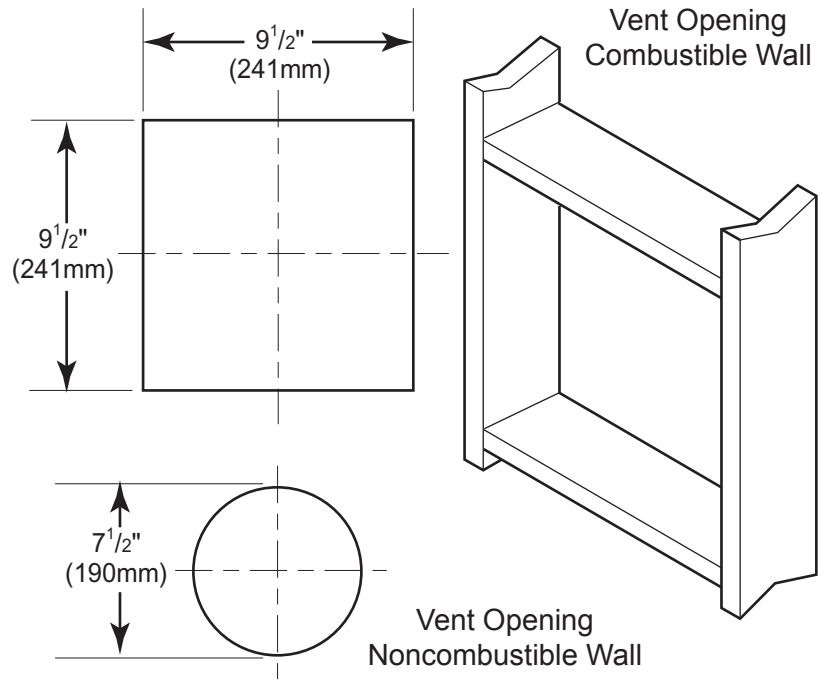

Figure 15 - Vent Opening Requirements
3. Attach vent pipe assembly to the stove. Set stove in front of its permanent location to insure minimum clearances. Mark the wall for a 9 1/2" (241) square hole (for noncombustible material such as masonry block or concrete, a 7 1/2" [190mm] diameter hole is acceptable). See Figure 15. The center of the hole should line up with the center line of the horizontal rigid vent pipe. Cut a 9 1/2"x9 1/2" (241mm X 241mm) square hole through combustible exterior wall (7 1/2" [190mm] diameter hole if noncombustible). Frame as necessary. See Figure 15.
3. Cut a hole in the roof using the locating hole as a center point. (Cover any exposed open vent pipes before cutting hole in roof). The 9 $\frac{1}{2}$ "x9 $\frac{1}{2}$ " (241mm x 241mm) hole must be measured on the horizontal. Actual length may be larger depending on the pitch of the roof. There must be a 1" minimum clearance from the vent pipe to combustible materials. Frame the opening as shown in *Figure 15* on page 17.